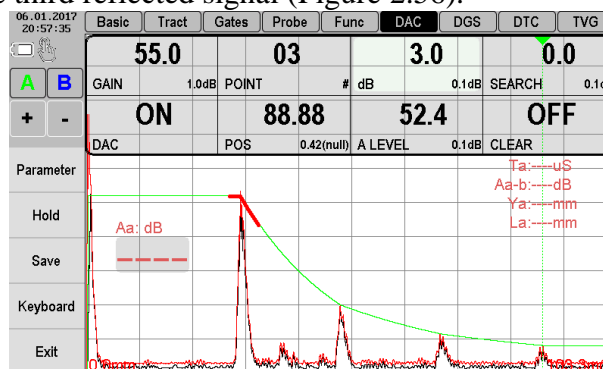

Figure 2.56 – Setting the position of the third reference DAC point
14. Select point number 02 for the third reflected signal and set on A-scan its position («POS») on impulse peak of the third reflected signal (Figure 2.56).